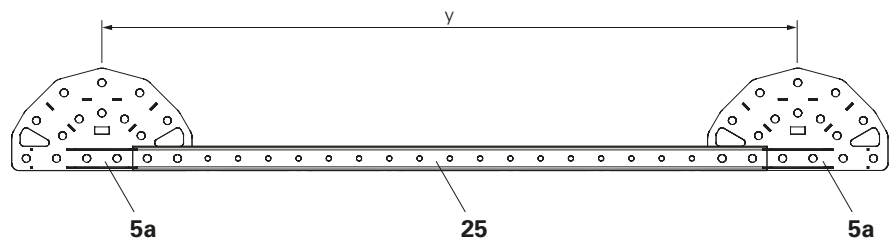
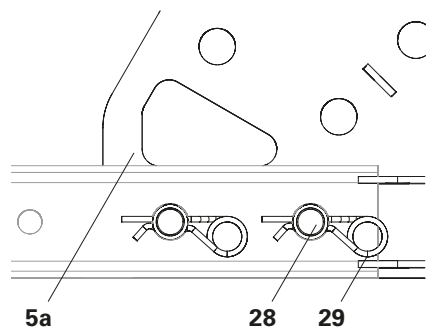

Fig. A4.02
Fig. A4.02a
2. Insert the Steel Waler 262 (25) into the Chord Nodes.
3. Fix the Steel Waler 262 (25) to the Chord Nodes (5a) using 2x fitting pins Ø 32 (28) respectively and secure with cotter pins 5/2 (29). (Fig. A4.02 + Fig. A4.02a)